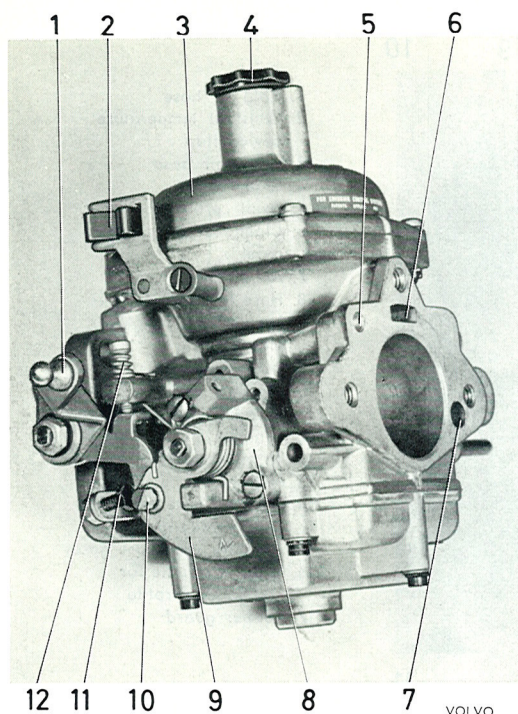
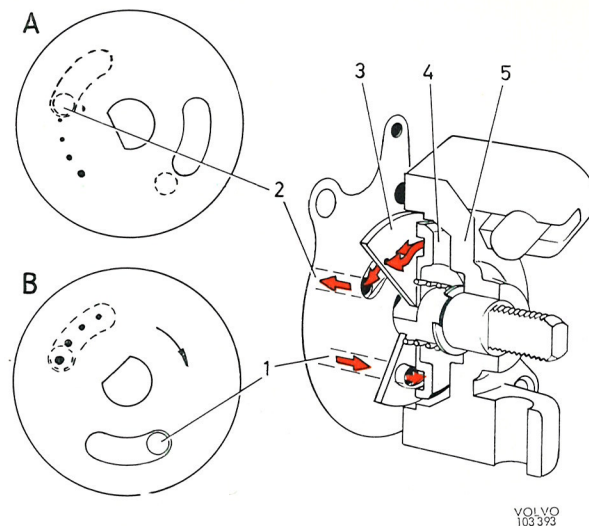

Fig. 2-63. Stromberg-carburettor, left side, B 20 A
Fig. 2-70. Cold-start device
The carburettor for the B 20 A engine is shown in Figs. 2-63 and 2-64. It has been designed with a view to obtaining cleaner exhaust gases by means of an exhaust emission control system.
To facilitate starting during cold weather, the carburettor is provided with a cold start device (Figs. 2-70 and 2-71). (For the B 20 B engine, only on the rear carburettor.)
The cold device consists of a choke lever (3, Fig. 2-70) which is provided with four calibrated holes and an elongated opening as well as a channeled disc (4) mounted on a spindle which is operated by the choke control. On the same spindle, outside the housing (5), there is a cam disc (9, Fig. 2-63) with connection for the choke control pull wire. When the cold start device is engaged, the valve disc turns and this links up the channel (1, Fig. 2-70) from the floatchamber via one or several of the calibrated holes to the channel on the other side of the valve disc and further through the drilling in the channel (2), which terminates in the venturi between the vacuum plunger and choke flap. By means of this link-up, the engine receives extra fuel (richer mixture) to facilitate cold starting. At the same time, a little extra air is obtained by means of the choke device. When the choke control is pushed in, the valve disc turns and closes the inlet to the channel. At the same time as the cam disc is operated, the throttle flap opening is also influenced